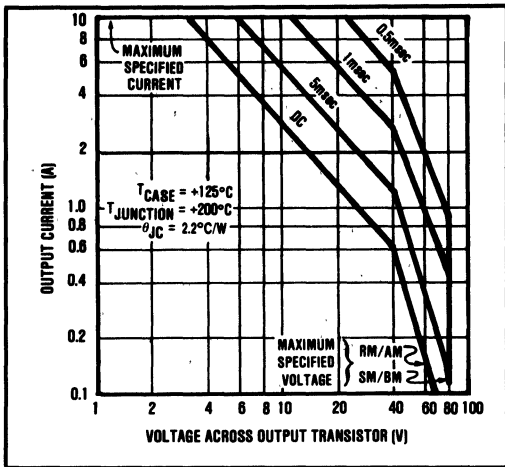

FIGURE 5. Transistor Safe Operating Area at +125°C Case Temperature.
Limits for short pulse widths are substantially greater than for steady state (DC). At a case temperature of +125°C the SOA limits are reduced (see Figure 5). The SOA shown in these curves is based on a conservative linear derating of both the power dissipation and the second breakdown region.